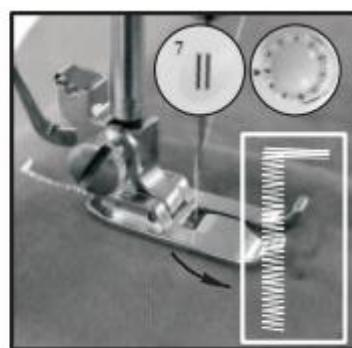

Fig. 18
3. Choose the stitch pattern #7, turn on switch and sew onto the cloth in suitable length, then turn off switch. Note that try to keep sewed stitch in straight line(Fig.18).